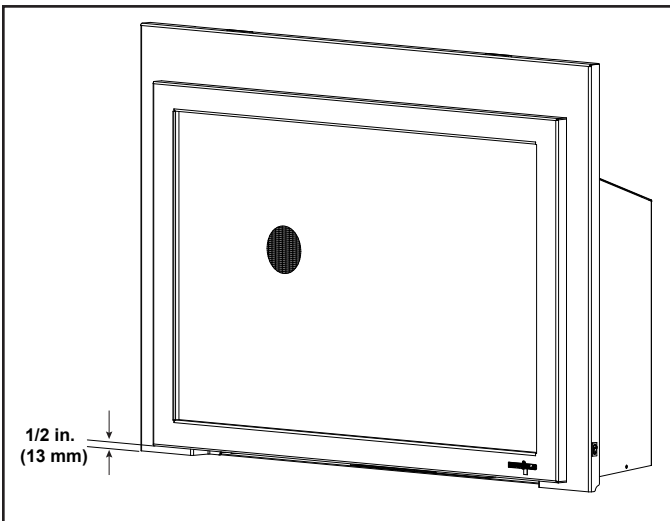

Figure 4. Minimum Required 1/2 in. (13 mm) Gap to Bottom of Front
6. Ensure there is a 1/2 in. (13 mm) gap underneath the front. See Figure 4. Components will overheat if the gap is not maintained.